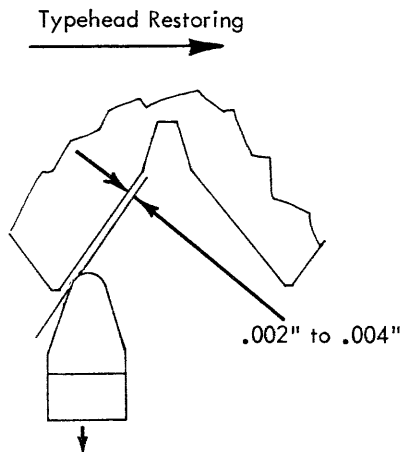

FIGURE 86. Withdrawal Clearance For The -5 Character
13. Print Shaft Timing (Final) - Advance or retard the print shaft relative to its gear to obtain the proper timing of the rotate detent. Hand-cycle an upper case -5 character and observe the rotate detent as it operates in the typehead notch. The detent must enter the correct detent notch and withdraw without restricting the restoring of the typehead. There should be .002" to .004" backlash felt in the typehead when the detent is near the bottom of the slope of the detent notch (Fig. 86).